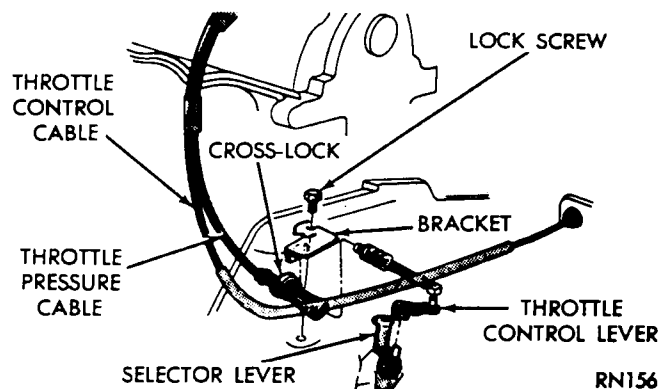

Fig. 3—Throttle Pressure Cable
THROTTLE PRESSURE CABLE ADJUSTMENT (Fig. 3)
- (2) Loosen cable mounting bracket lock screw.
- (3) Bracket should be positioned with both bracket alignment tabs touching the transaxle cast surface. Tighten lock screw to 12 N·m (105 in. lbs.) (Fig. 3).
- (4) Release cross-lock on the cable assembly (pull cross-lock upward) (Fig. 3).
- (5) To insure proper adjustment, the cable must be free to slide all the way toward the engine, against its stop, after the cross-lock is released.
- (6) Move transaxle throttle control lever fully clockwise, against its internal stop, and press cross-lock downward into locked position (Fig. 3).